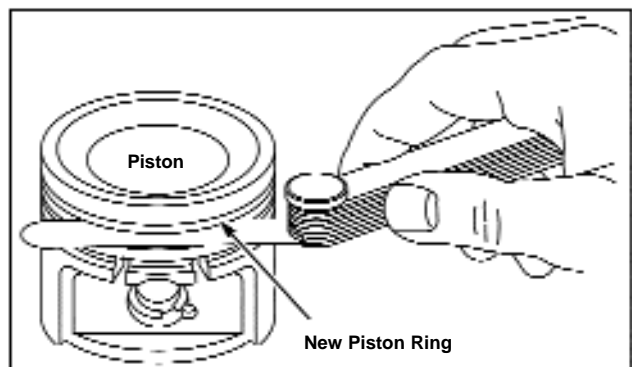

Figure 112 - Checking Ring Grooves
2. Place a NEW ring in groove and measure space between ring and ring land. Refer to Table 14 for specifications. See Figure 112